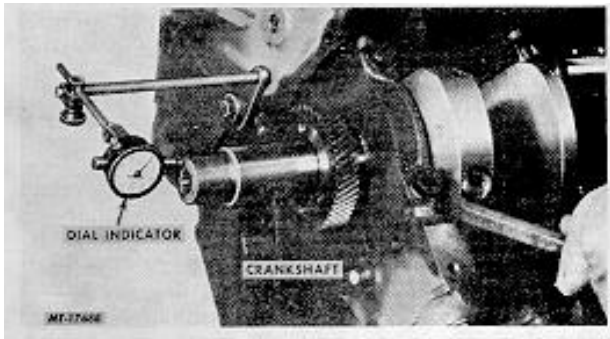

Fig. 58 Checking Crankshaft End Play
58. Crankshaft end play should be checked at this point with a dial indicator (Fig. 58). See SPECIFICATIONS. If the reading exceeds the limit, the third crankshaft bearing must be replaced so it controls the crankshaft thrust